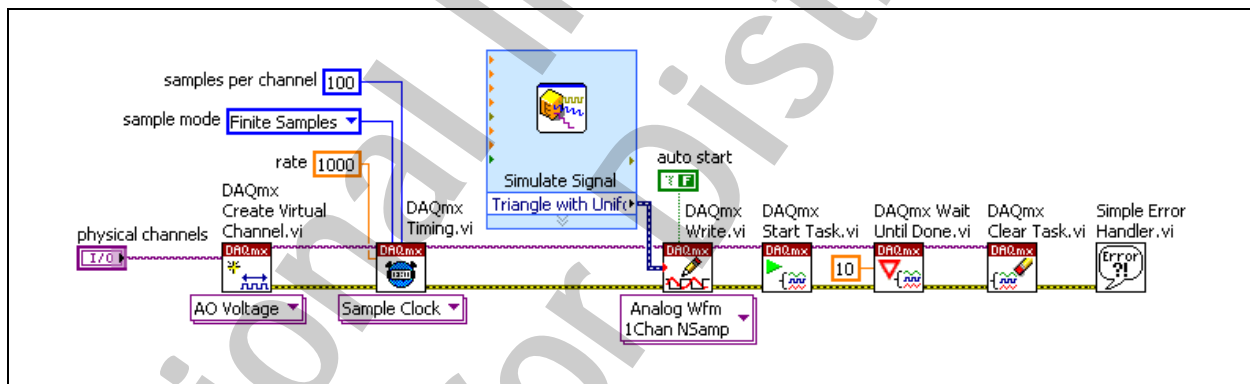

Figure 4-3. Finite Buffered Generation VI Block Diagram
3. Create the block diagram to generate a finite number of samples, as shown in Figure 4-3, using the following items: